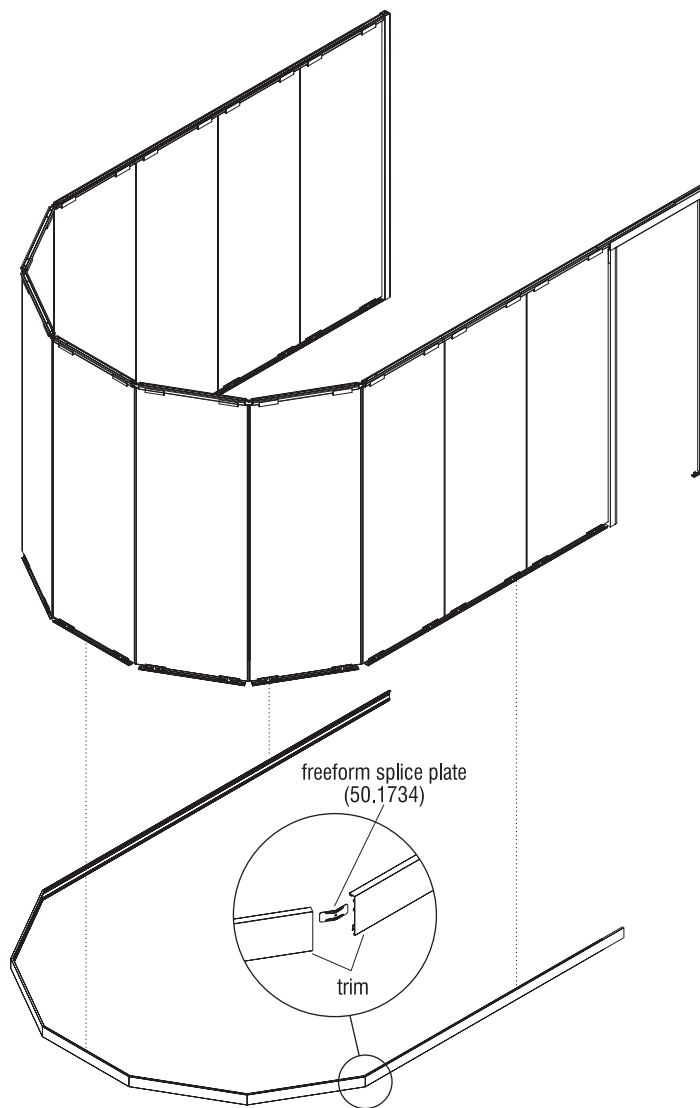

Figure 10 - Trim Installation (Floor Trim Shown Only)
29. Remove the pieces of trim and splice them all together using the freeform splice plate (50.1734). This splice is bent by hand to the angle required. The splice fits into the end of the trim with an interference fit. Push and tap the splices into trim so that the middle of the splice lines up with the miter line. Continue attaching one piece of trim to the next until the entire curve is complete (Figure 10).
30. Finally, install this complete trim assembly onto the panels as one complete piece (Figure 10).